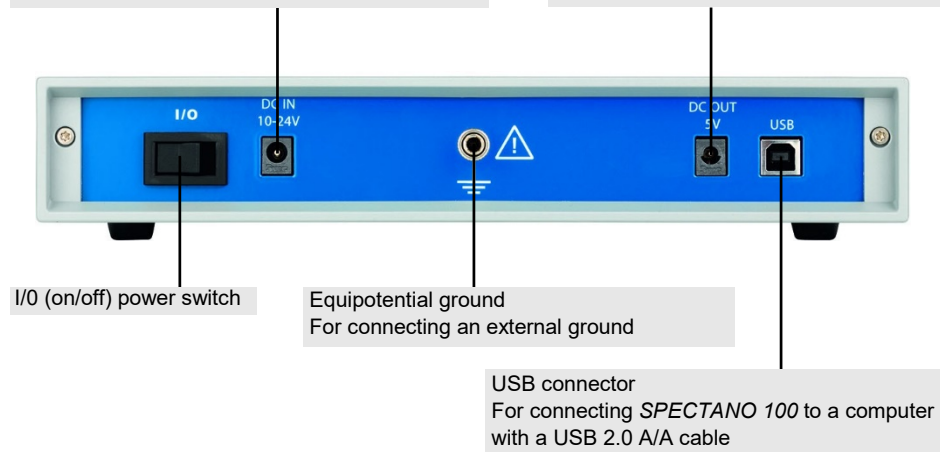

Figure 6-2 *SPECTANO 100* rear view
1. Plug the DC output connector of the AC power supply into the DC power input on the *SPECTANO 100* rear panel (see Figure 6-2 "SPECTANO 100 rear view" on page 17).